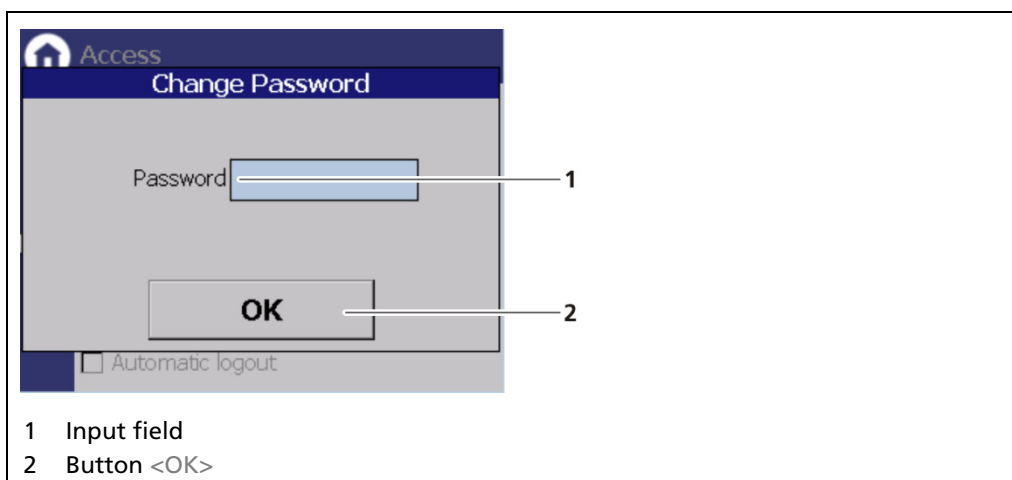

Fig. 37 Change password
1. Click on the text field (Fig. 37, item 1.) to open the input field.
4. Click <OK> (Fig. 37, item 2) to confirm.